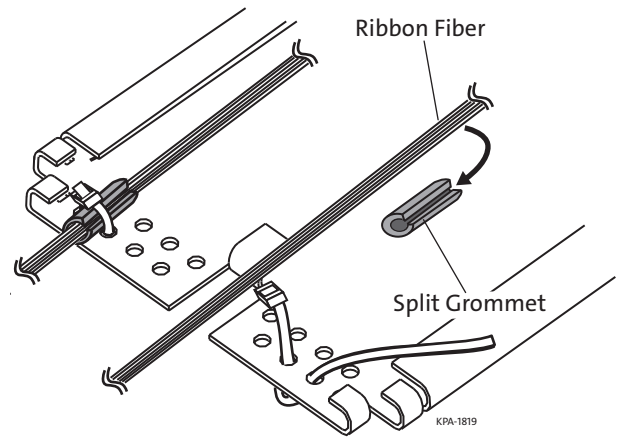

Figure 11
Step 3: Secure the split grommet to the tray using a cable tie (Figure 11). Position cable tie buckle to one side to avoid interference with the cover.
Step 1: Insert up to six individual fibers into each split grommet and secure grommet to the tray as shown in Figure 11.